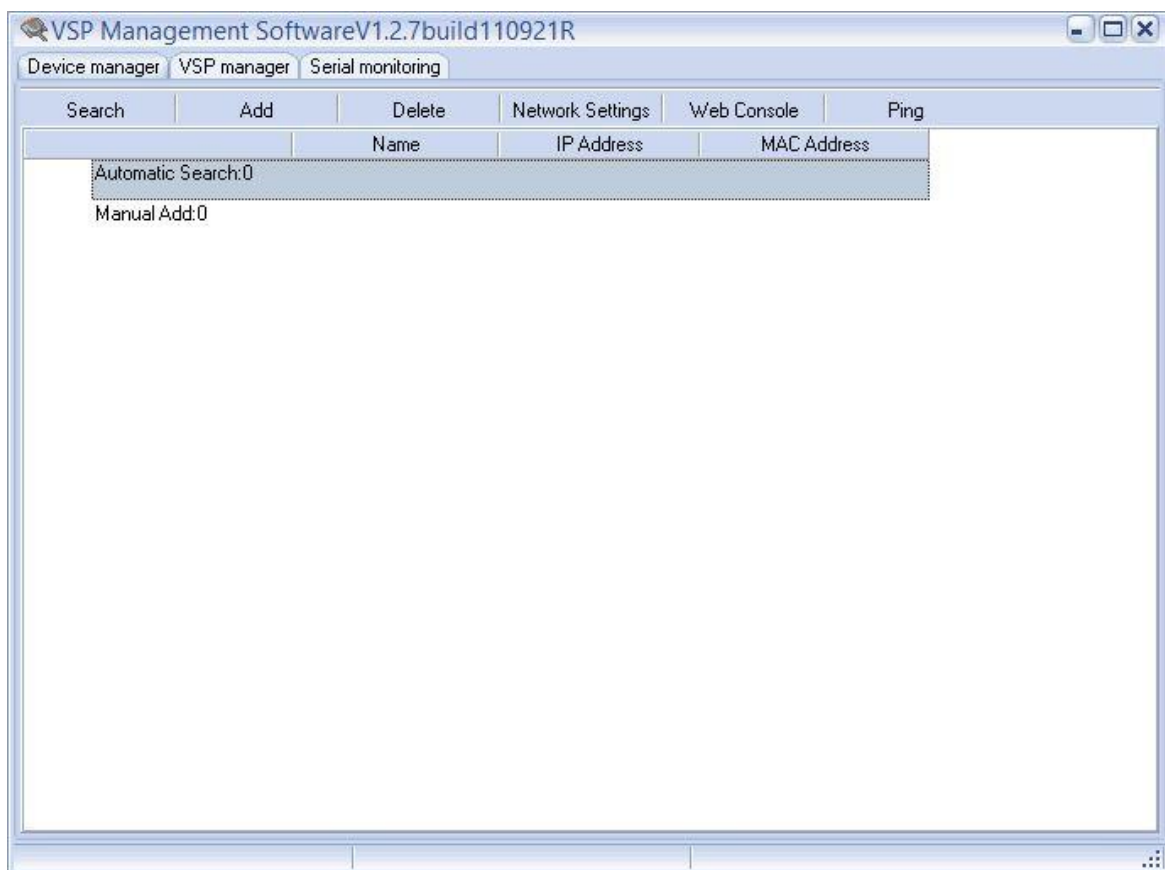

FIGURE 4.23 – VSP MANAGEMENT SOFTWARE
- 3) Run the VSP management software. (SEE FIGURE 4.23).